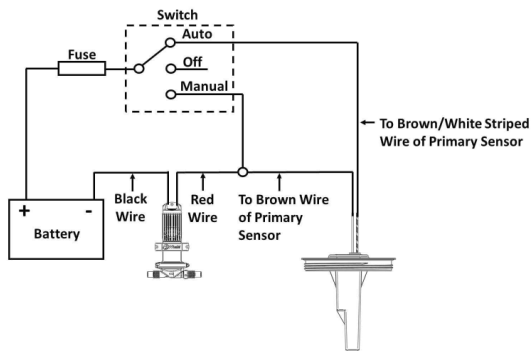
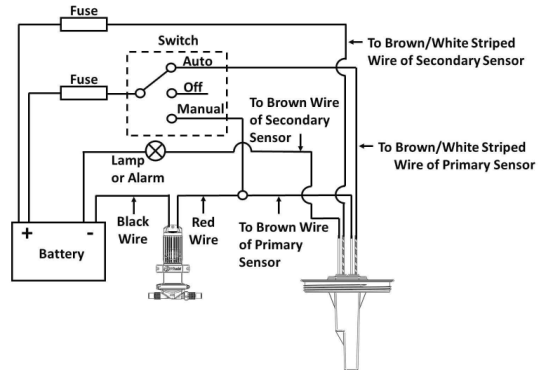
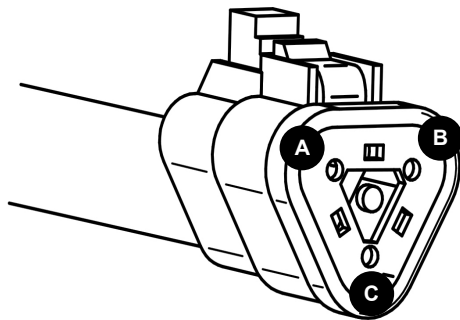

Figure 1A Wiring Diagram - For Single Sensor Models
Figure 1B Wiring Diagram - For Double Sensor Models
Figure 1C AK1006 / AK1007
- **WARNING:** Installation **must** be carried out by a qualified electrician. Improper wiring can cause a fire resulting in injury or death. Suggested wiring information (Figure 1A and Figure 1B) is given as a guide only, and wiring **must** comply in accordance with the applicable electrical standards. Appropriate size fuses or circuit breakers **must** be installed.
Wiring: See Figure 1A or Figure 1B. For AK1006 and Ak1007 see also Figure 1C.
Incorrect wiring	Check wiring Figures 1A / 1B